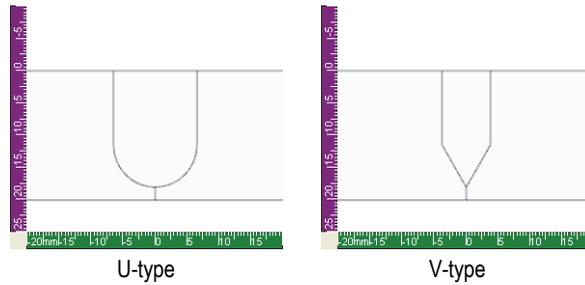

Figure 8-6 Hot-pass types
- Hot pass:** The region just below the fill of the weld. This region receives the second pass during the welding process. The hot pass can be of two bevel types (see Figure 8-6 on page 80):